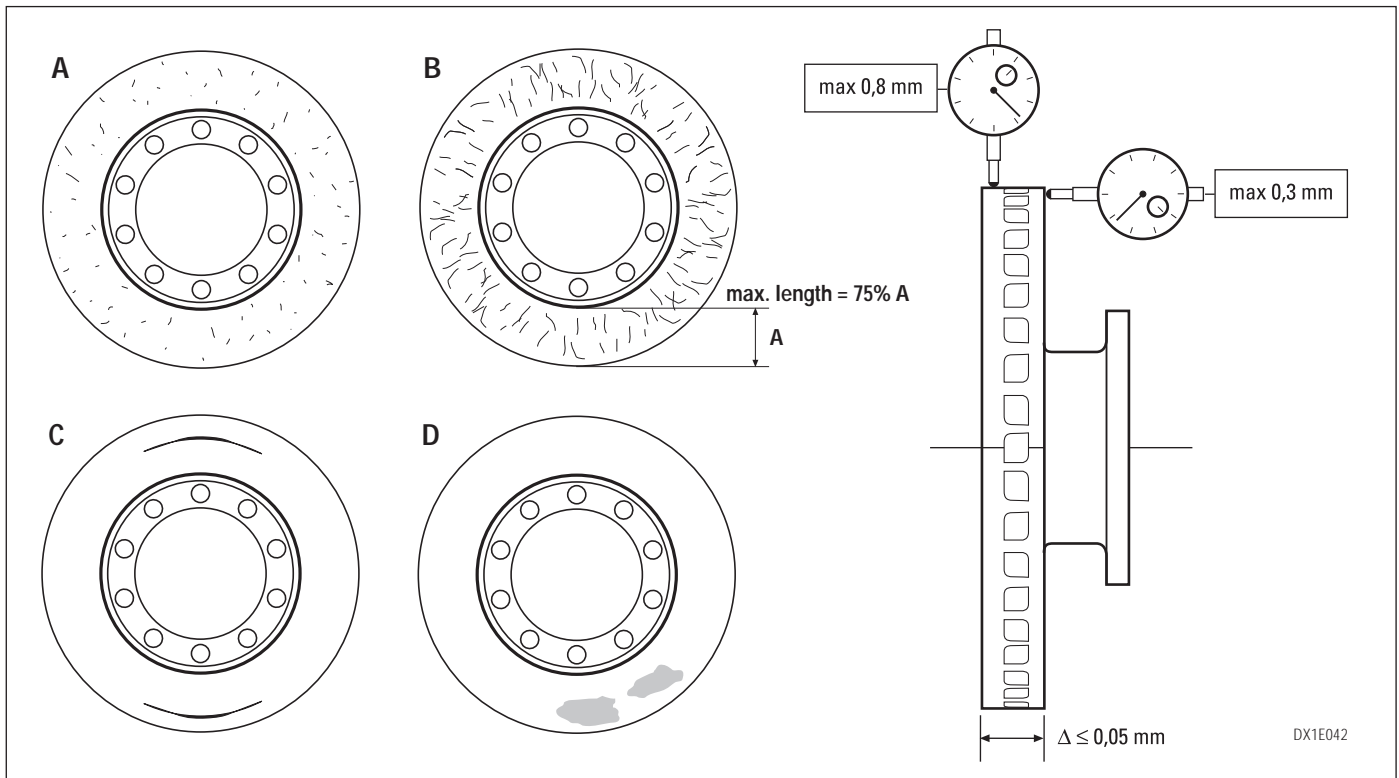

Fig. 3-6 Rotor inspection
**Use a dial test indicator (DTI) to check both axial and radial run-out as illustrated in Fig. 3-6.**